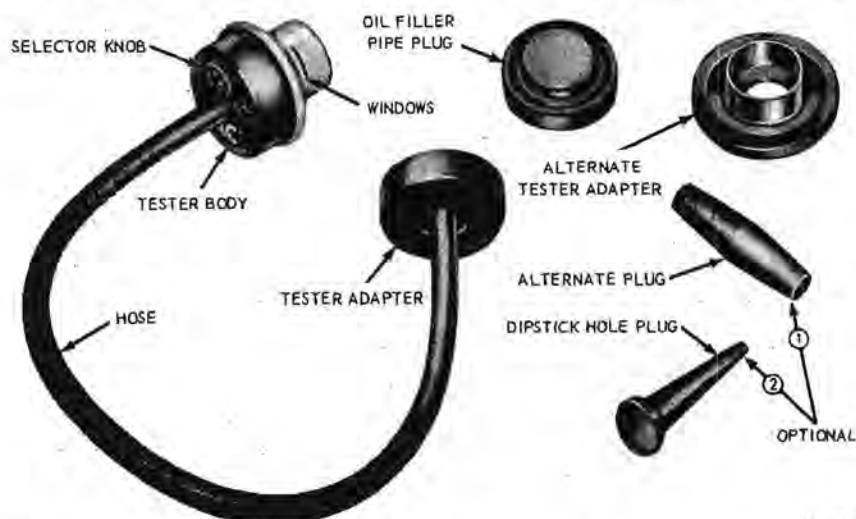

FIG. 6—AC Position Crankcase Ventilation System Tester
Air Intake Test. This test uses the AC positive crankcase ventilation tester (Fig. 6) which is operated by engine vacuum through the oil filler opening. Follow the procedures described below to install the tester and check the crankcase ventilation system for faulty operation.
4. Insert the tester adapter in the filler cap opening and turn the selector knob (Fig. 6) to number 2 for the 289 and 390 V-8 or number 4 for the 170 and 200 six.